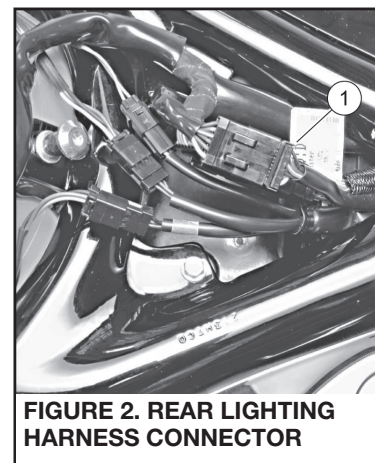

FIGURE 2. REAR LIGHTING HARNESS CONNECTOR
1. Locate and disconnect the rear lighting harness connector from the main wiring harness connector, see **FIGURE 2**.